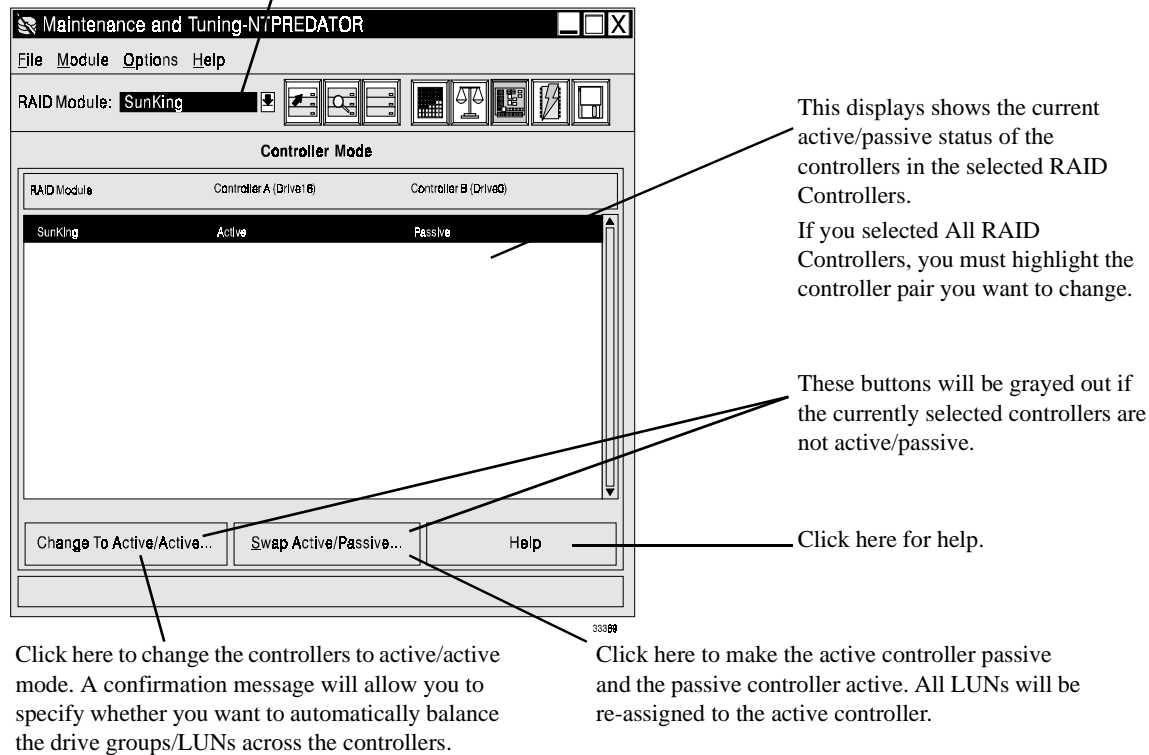

Figure 61. Change Controller Mode Screen
3. Click on the Controller Mode button or select Option → Controller Mode from the drop-down menu. A screen like Figure 61 on page 132 is displayed.